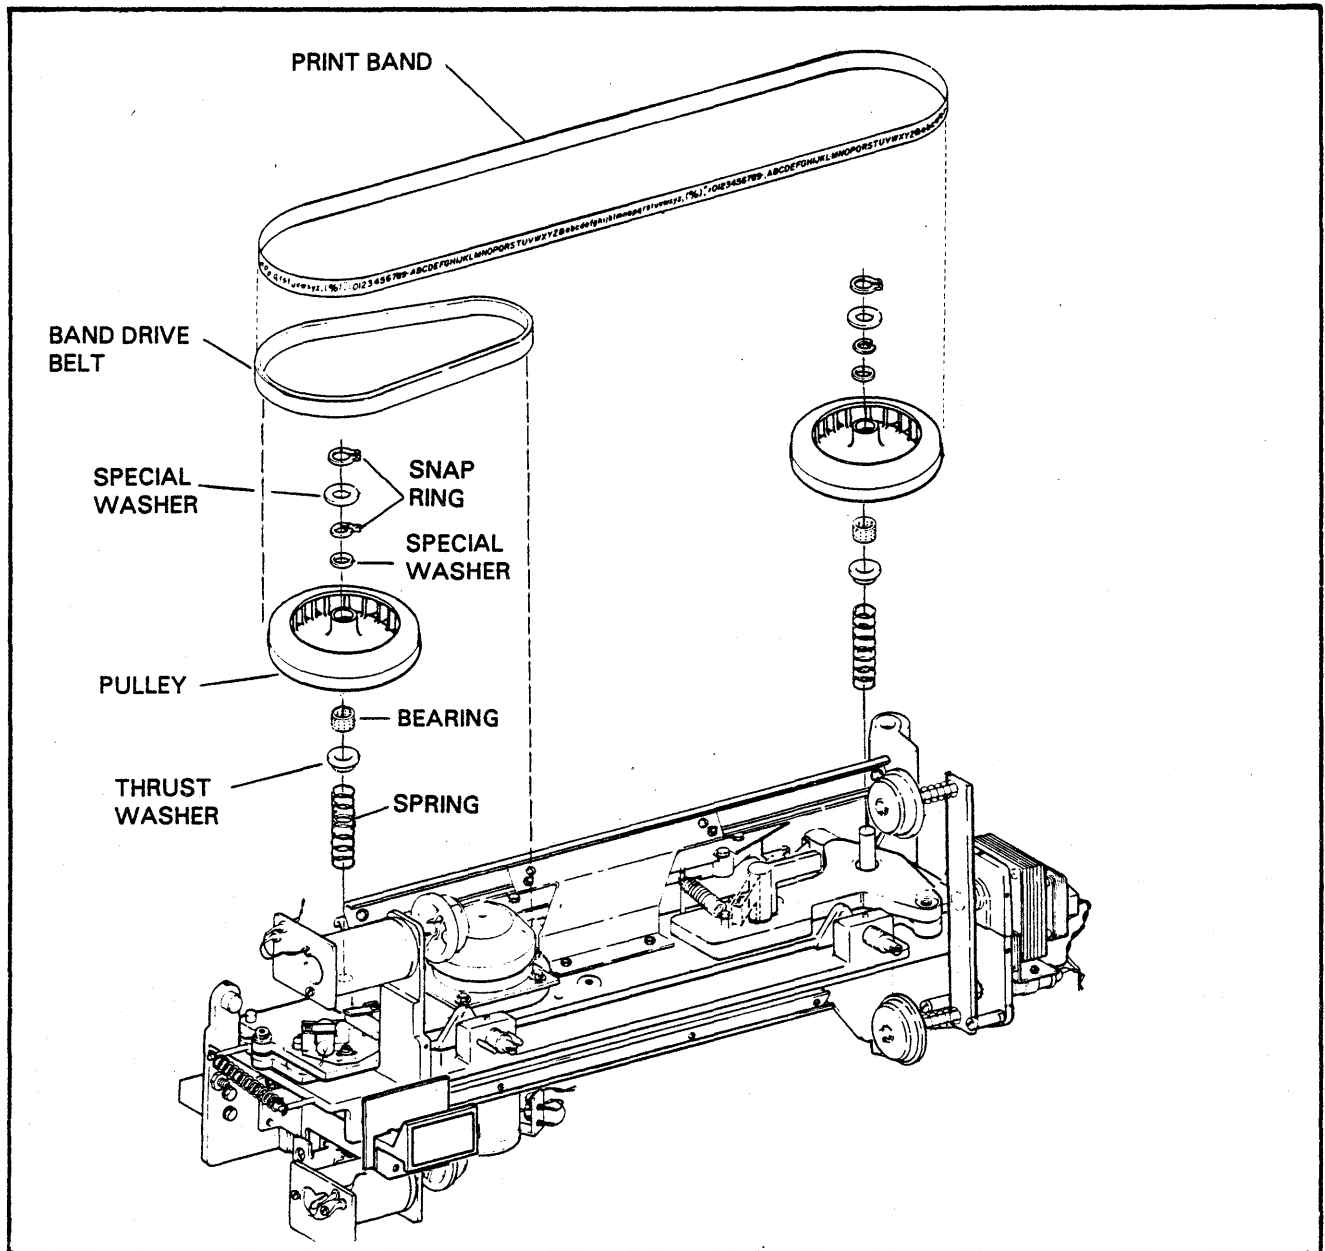

FIGURE 6-12. BAND PULLEY REPLACEMENT
5. Using a snap ring spanner wrench, remove the large snap ring on top of pulley shaft. (See Figure 6-12).